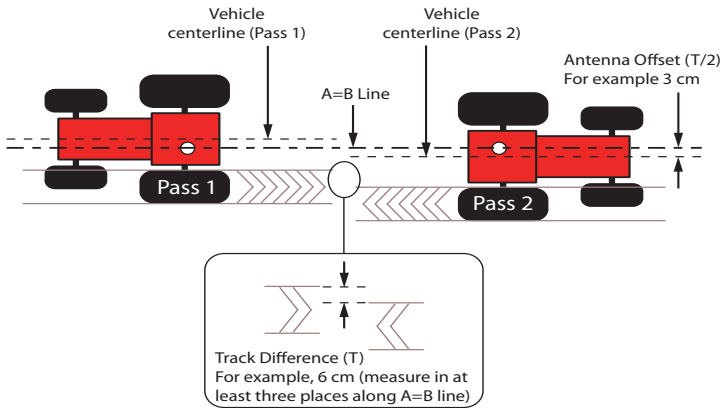

Figure 3-2: Determining antenna offset (example $6/2 = 3$ cm left)
4. In three different places along the A=B line, measure the distance between the corresponding track marks (inside edges, outside edges or centers, whichever are easiest to see and measure, see Figure 3-2). If there is variation, calculate the average difference. In Figure 3-2 the track difference is 6 cm, measured at the outside edges of the track marks at one point on the A=B line.
5. Determine the direction of the offset. This is the direction in which the vehicle would have to move for the second pass to track exactly over the first pass (this tells you if the antenna center is to the left or the right of the vehicle centerline). In Figure 3-2, the vehicle would need to move to the left for Pass 2 to be exactly on Pass 1.